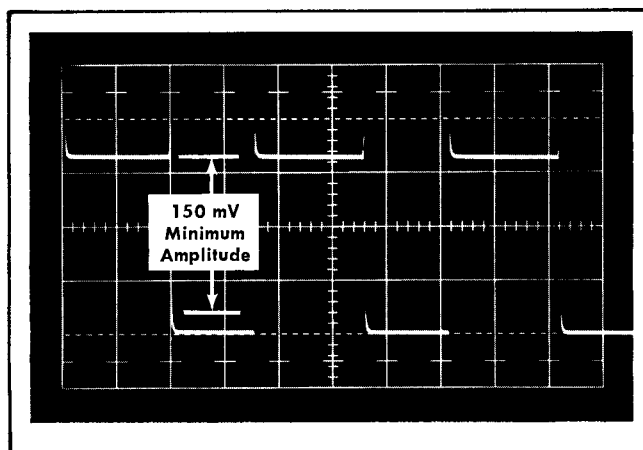

Fig. 6-7. Typical display showing the Pulse Out.
c. Check that the pulse amplitude is at least 150 mV; see Fig. 6-7.